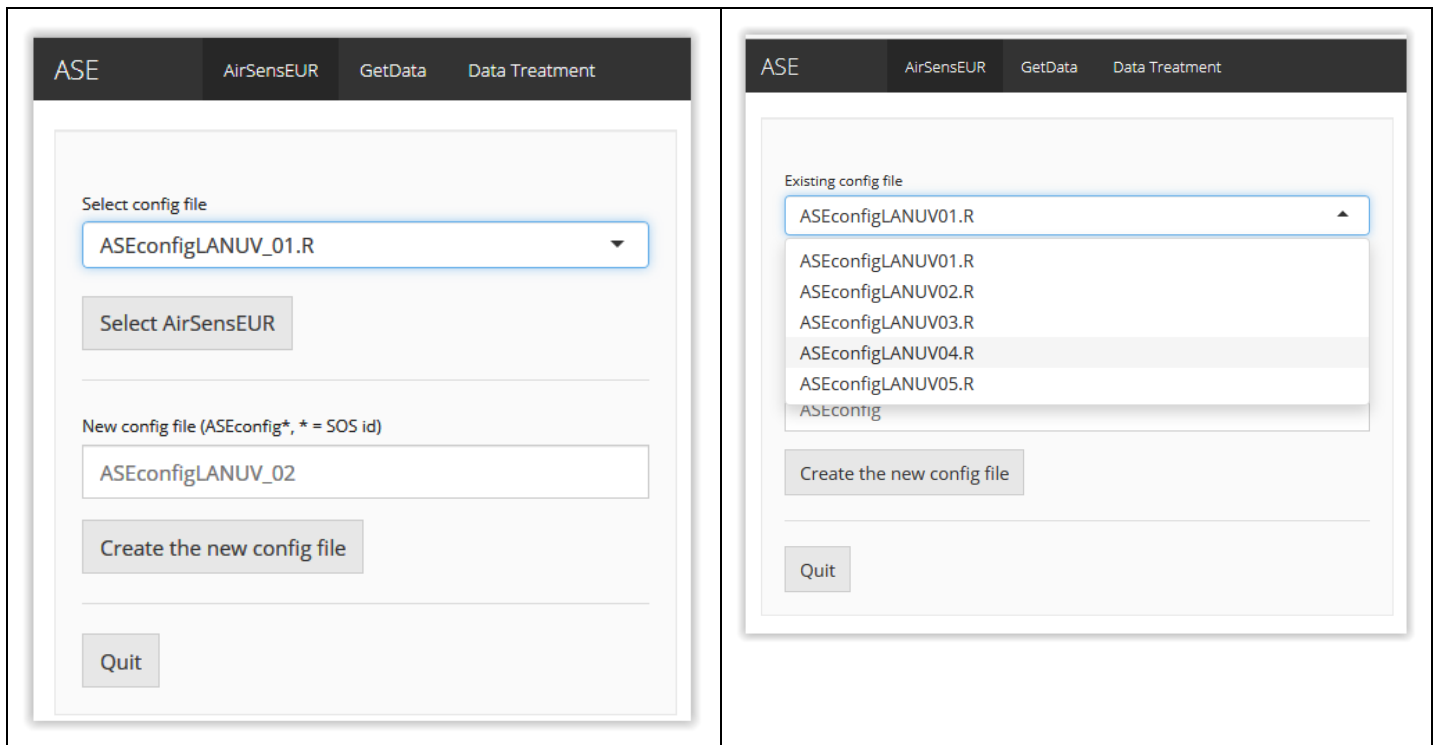

Figure 3: AirSenseEUR R/Shiny web interface for AirSenseEUR, left: selecting an AirSenseEUR config file and right creating a new AirSenseEUR config file
- Click of the button labelled "Create new config file" (see Figure 3, lower left figure).
- At the end of the process, the "Select config file" combo box automatically points to the newly created config file and the 4 panels called "Push data", "Filtering" "Calibration" and "SetTime" are updated (see Figure 3, upper figure).
It is possible to select another AirSenseEUR config file by clicking on the combo box named "List of configured AirSenseEURs", see Figure 3, lower right figure. The 4 panels describing the AirSenseEUR configuration called "Push data", "Filtering" "Calibration" and "SetTime" are updated accordingly. Click on "Select AirSenseEUR" button, see Figure 4. The following process is run: